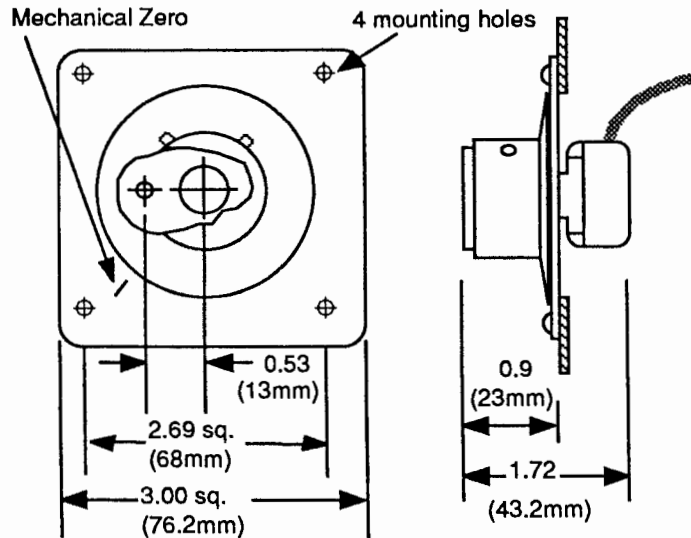

Figure 5 - Setpot Dimensions and Mechanical Zero Location
1. Drill a 2.000" diameter hole at the center of the desired remote setpot assembly location. See Figure 5.